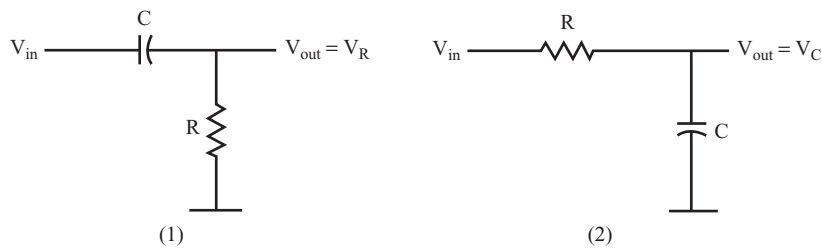

FIGURE 6.26
**20** In both of the circuits shown in Figure 6.26, the output voltage is different from the input voltage.
**NOTE** The numbered graphs in Figure 6.27 are produced by the corresponding numbered circuits in Figure 6.26.
- A.** Examine graph (1). Is the output voltage peak displaced to the right or the left?
- B.** Examine graph (2). Is the output voltage peak displaced to the right or the left?